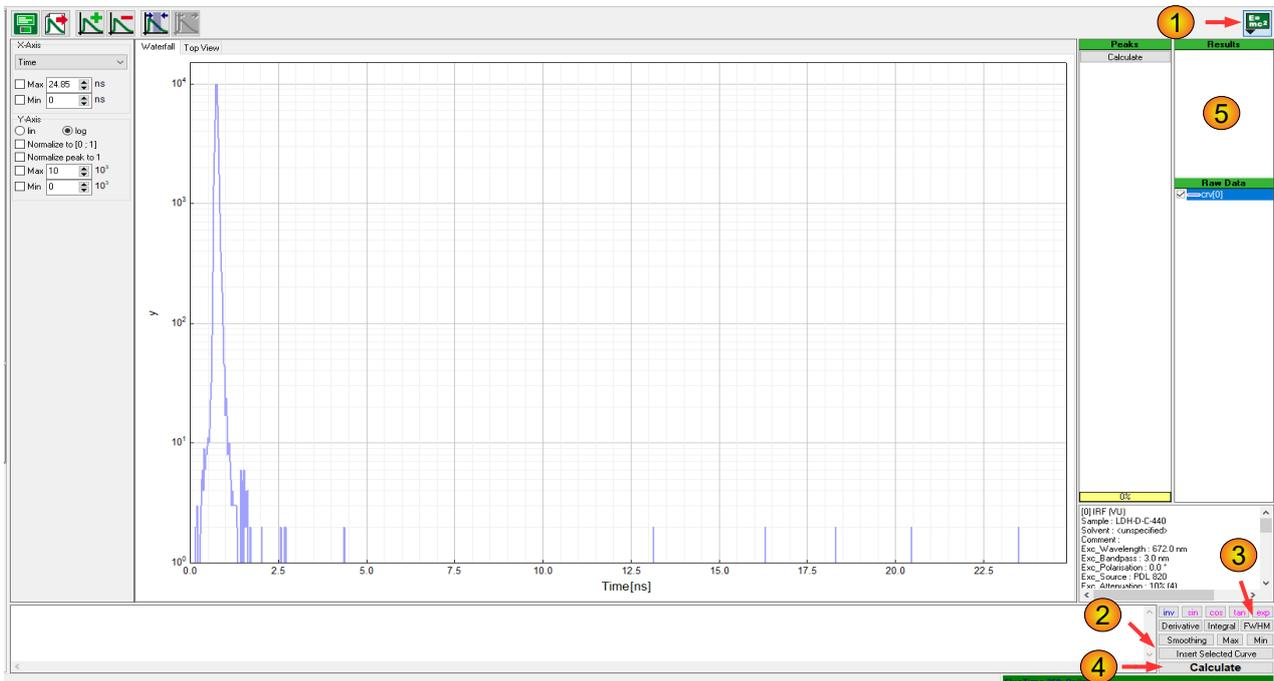

Fig. 36: Plotting of the measured IRF and calculation of the FWHM of the IRF.
- Plot the IRF by clicking on the corresponding “Plot data” button in the toolbar menu of the Easy-Tau2 software. A window as shown below will appear (Fig. 36):
- Click on the “E = mc²” button (1 in Fig. 36) to open the scripting window below the plot
- Press “Insert Selected Curve” button (2 in Fig. 36), then “FWHM” button (3 in Fig. 36) and finally “Calculate” button (4 in Fig. 36). The FWHM of the IRF will be calculated and the result (in nanoseconds) is shown in Results window (5 in Fig. 36).